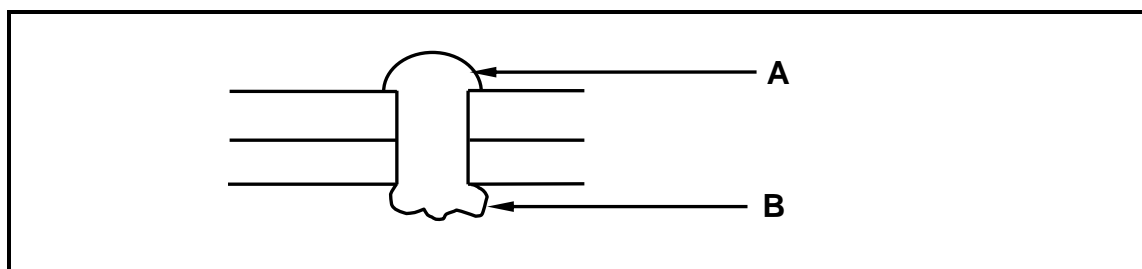

FIGURE 6.12
6.12 FIGURE 6.12 below shows a joint between two pieces of metal. Study the drawing and answer the questions that follow.